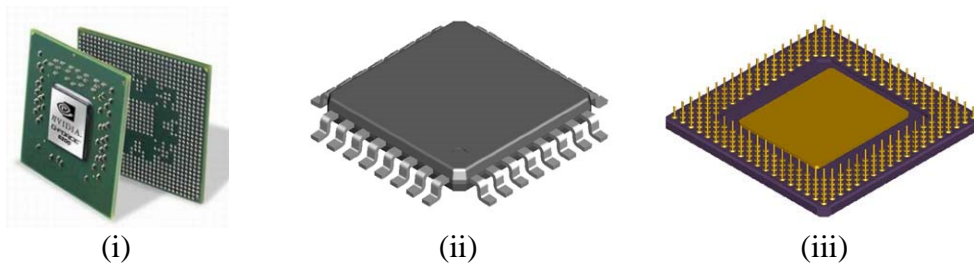

Figure Q4[a]
- Q4. [a] Identify the type of package of these electronic components in figure Q4[a].**